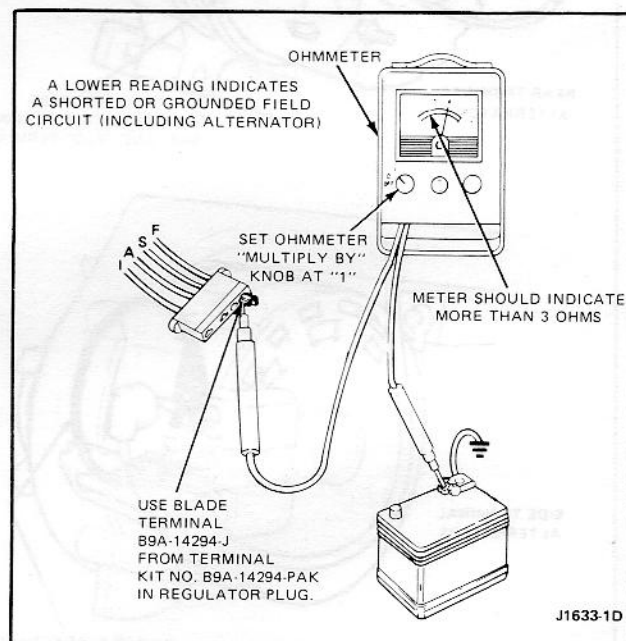

Fig. 5 - Field Circuit Test
1. If the voltage does not indicate more than 1/2 volt above base voltage, disconnect wiring plug from regulator and connect an ohmmeter from "F" terminal of plug to ground (Fig. 5). Meter should indicate more than three ohms. If less than three ohms is indicated, service grounded field current in wire or alternator and repeat Load Test above.